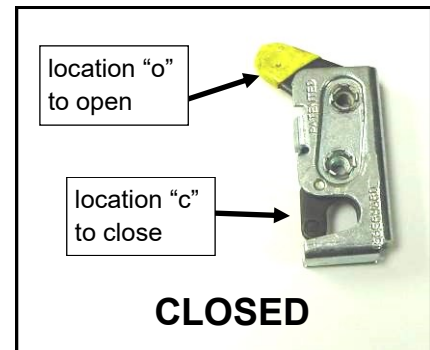

Fig. 5.4 (latch shown closed)
5.4 Tip: removal of any component that has latches can be made easier for a single person if the latch is opened to disengage the receiving pin then manually closed as shown in fig. 5.4 so the weight of the component does not cause the latch to continually re-engage on the receiver pin when you try to work the opposite side of the vehicle by yourself. Push at location “c” to close and pull at location “o” to open. Be sure to open latches before re-installing.